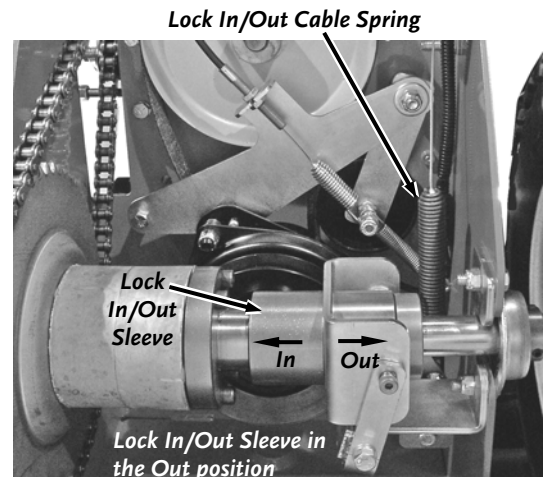

Figure 26b
2. With the Lock In/Out Lever in the Out position (lever back), there should be a slight amount of slack in the Cable exposed at the spring end (**Figure 26b**) and the Lock In/Out Sleeve should be all the way to the right (toward the outside).